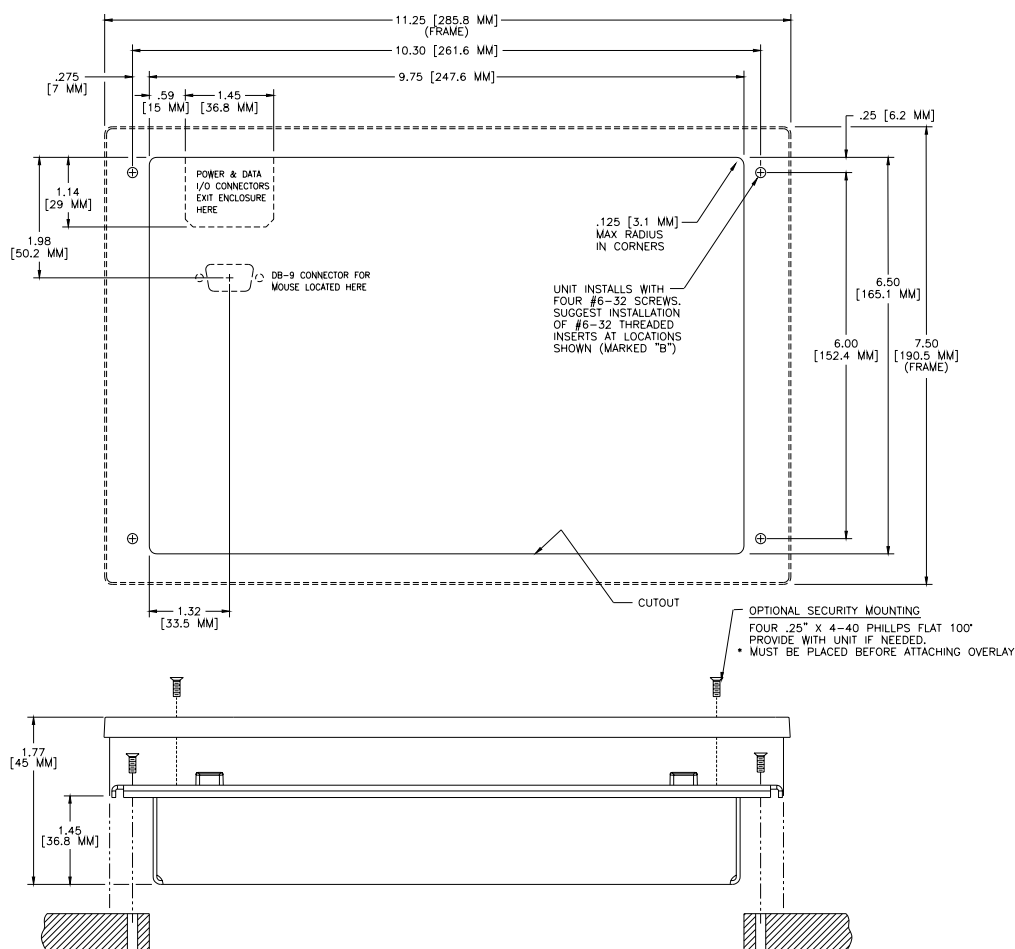

FIG. 1 Decor style and low-profile Back Box output dimensions
1. Cut out the surface using the dimensions shown in FIG. 1.
3. Place the touch panel into the cutout and mark the screw insert positions as shown in FIG. 1.